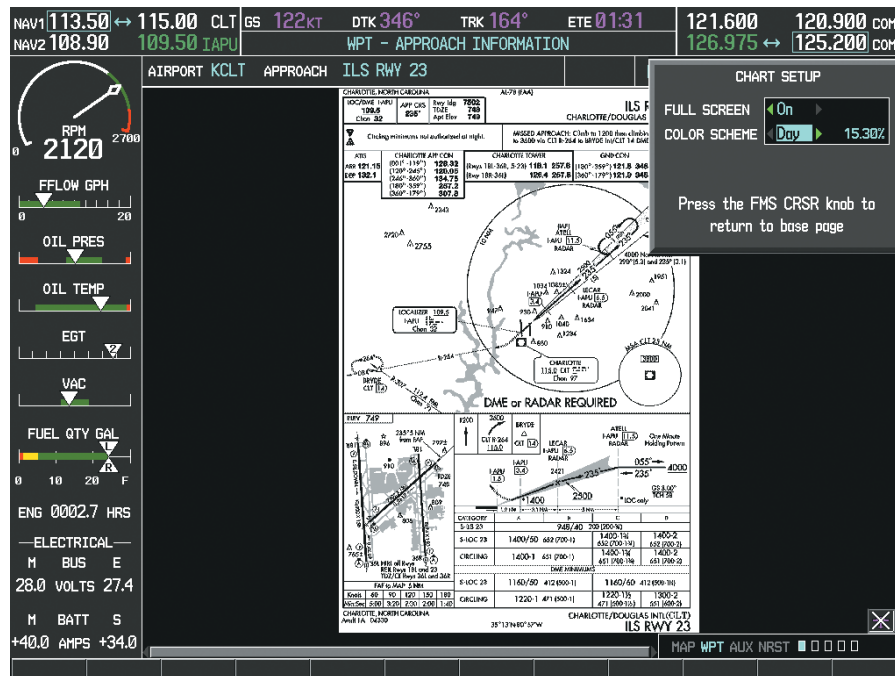

Figure 8-65 Approach Information Page, Day View
- 3) Turn the large **FMS** Knob to move to the COLOR SCHEME Option (Figure 8-65).